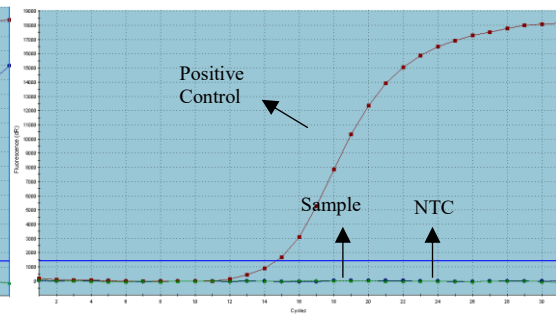

Figure 2 Curve of sample with wild-type *BRAF* gene
- b) If the sample FAM Ct value is ≥ 28 , the sample is determined as negative or below the detection limit of the kit (Figure 2).